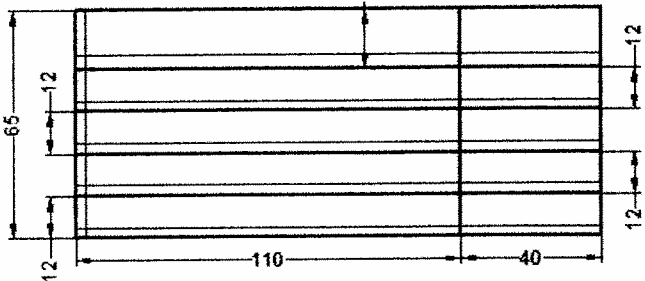

Figure 6-8a
- Use the *Line* command to create a table shown in Figure 6-8a.
- Use the *Offset* command to create the thin lines shown in Figure 6-8a.